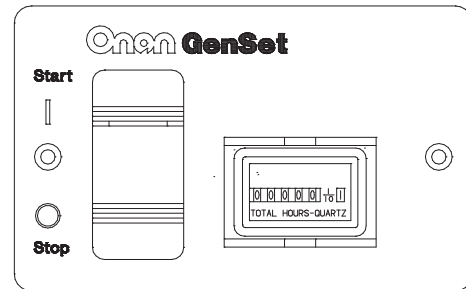

FIGURE 11. REMOTE CONTROL / HOUR METER
- Remote start/stop switch with indicator lamp and hour meter (Figure 11).